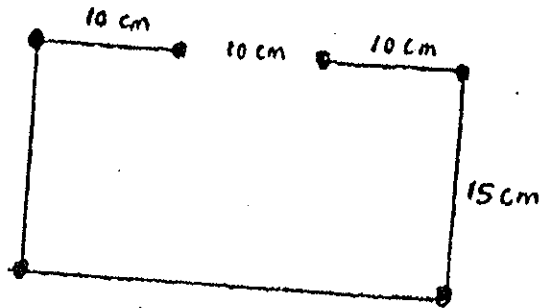

Fig. 5
- (b) The section shown in Fig. 5 is subjected to vertical shear of 60 kN applied through shear center. Obtain the shear flow for the section. Areas of all the stringers are same and is equal to 7 cm^2 .